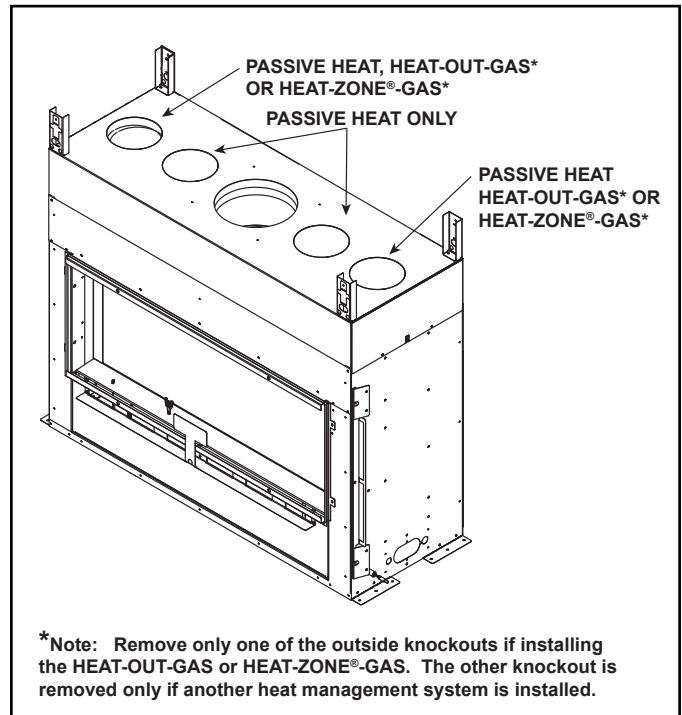

Figure 6.4
- Center the duct collar around the exposed hole and attach it to the appliance. See Figure 6.4.
- Passive Heat may be used with HEAT-OUT-GAS or one HEAT-ZONE®-GAS. The dedicated knockouts, as shown in Figure 6.4, must be used only as indicated.